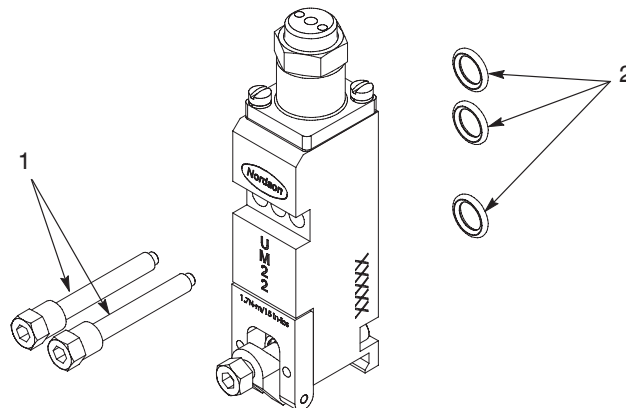

Figure 9-7 Replacing a module (standard adjustable module shown)
6. See Figure 9-7. Remove the module mounting screws and then remove the module. Discard the module O-rings.